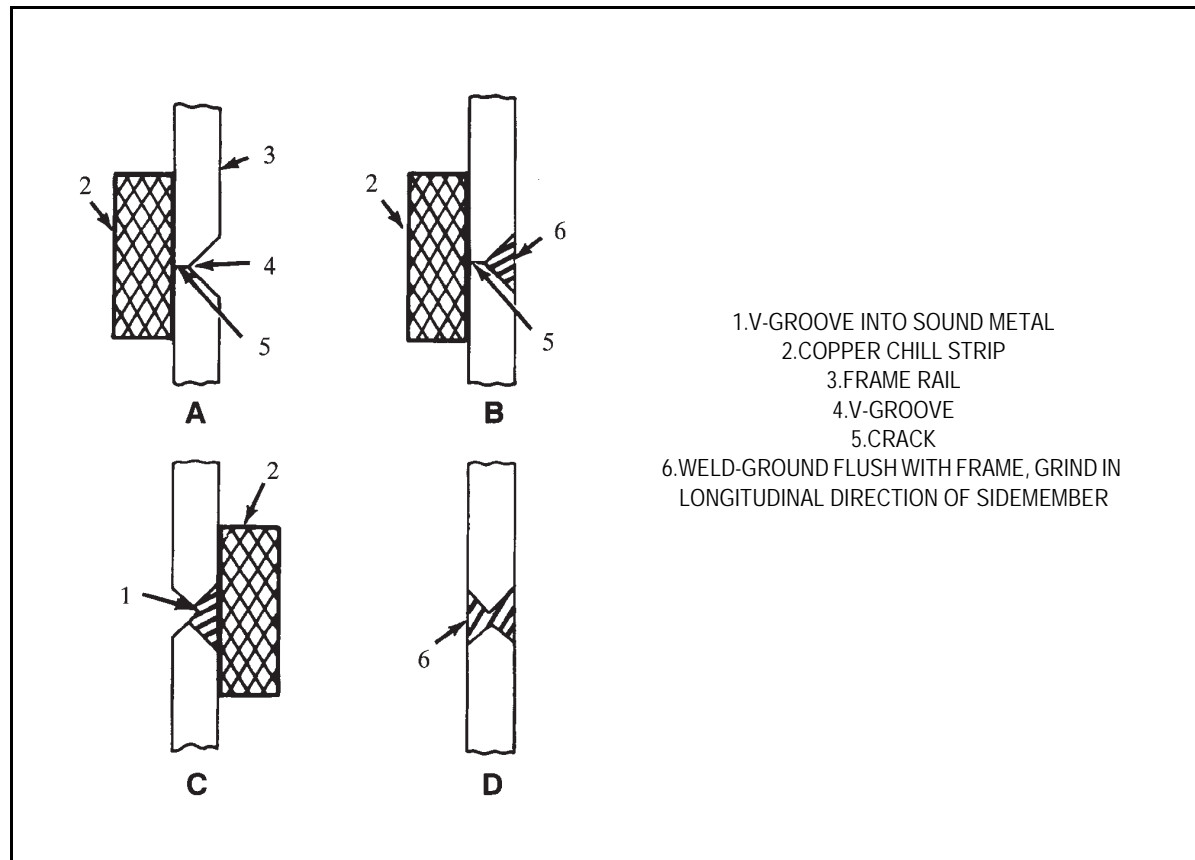

Figure 2.4 Use of Chill Strip
5. Grind smooth and flush with surrounding sidemember material. Grind the weld in a direction that is 90° to crack direction (Figure 2.4).
The SMAW and the GMAW methods are preferred for welding the HSLA frames. The use of low hydrogen electrodes is recommended. Refer to Table 1.8 for selection of recommended electrodes and wires, or refer to A.W.S. A.5 standard available from [www.aws.org](http://www.aws.org) for equivalent strength electrodes, wires or rods and power leads to be used in the welding methods. The double V-notch weld preparation using the weld procedure shown in Figure 2.4 is the preferred welding method.
10. Grind smooth and flush with surrounding sidemember material. Grind the weld in a direction that is at 90° to crack direction (Figure 2.4).
A heavy copper “chill” strip should be clamped to the rail side away from the groove to help control the temperature and cooling rate during welding (Figure 2.4). Short lengths of discarded heavy copper electrical bus bars make suitable chill strips.
Slag should be removed after each pass and an interpass temperature of 200° F (93° C) should be maintained. Grind smooth and flush with surrounding sidemember material, in a direction that is parallel to the longitudinal axis of the sidemember (Figure 2.4).
A V-groove is ground from the side opposite the repair and the procedure outlined above repeated. “Chill” strips should be used whenever possible. The V-groove ground on the opposite side of the repair should be deep enough to enter the sound metal of the first weld repair as shown in Figure 2.4.